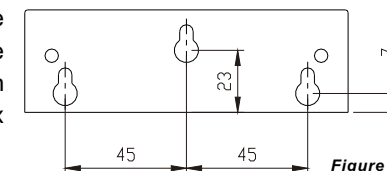

Figure 5
3. Install the control box in a well ventilated place, mount the control box to ensure the least amount of direct exposure to rain, garden sprinkler water, direct sunlight or any corrosive environment. Mount the control box on the wall with M4 screws. (see figure 5)